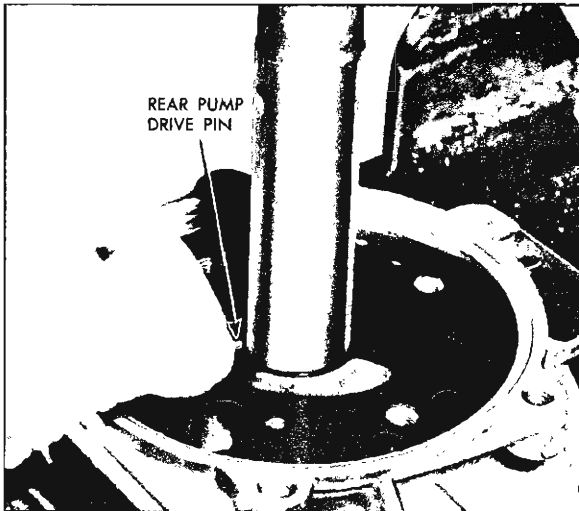

Fig. 10PG—Removing Rear Oil Pump Drive Pin
9. Remove the oil pump drive pin (fig. 10PG). This is of extreme importance. Do not fail to remove this drive pin.